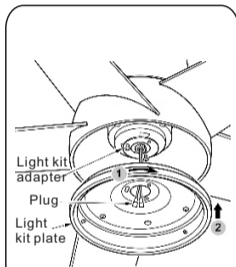

Fig.10
Step 2: Slide the light kit plate up towards the light kit adapter and place the key holes over the screws on the light kit adapter. Turn light kit plate until it locks in place at the narrow section of key holes.(Fig.10)